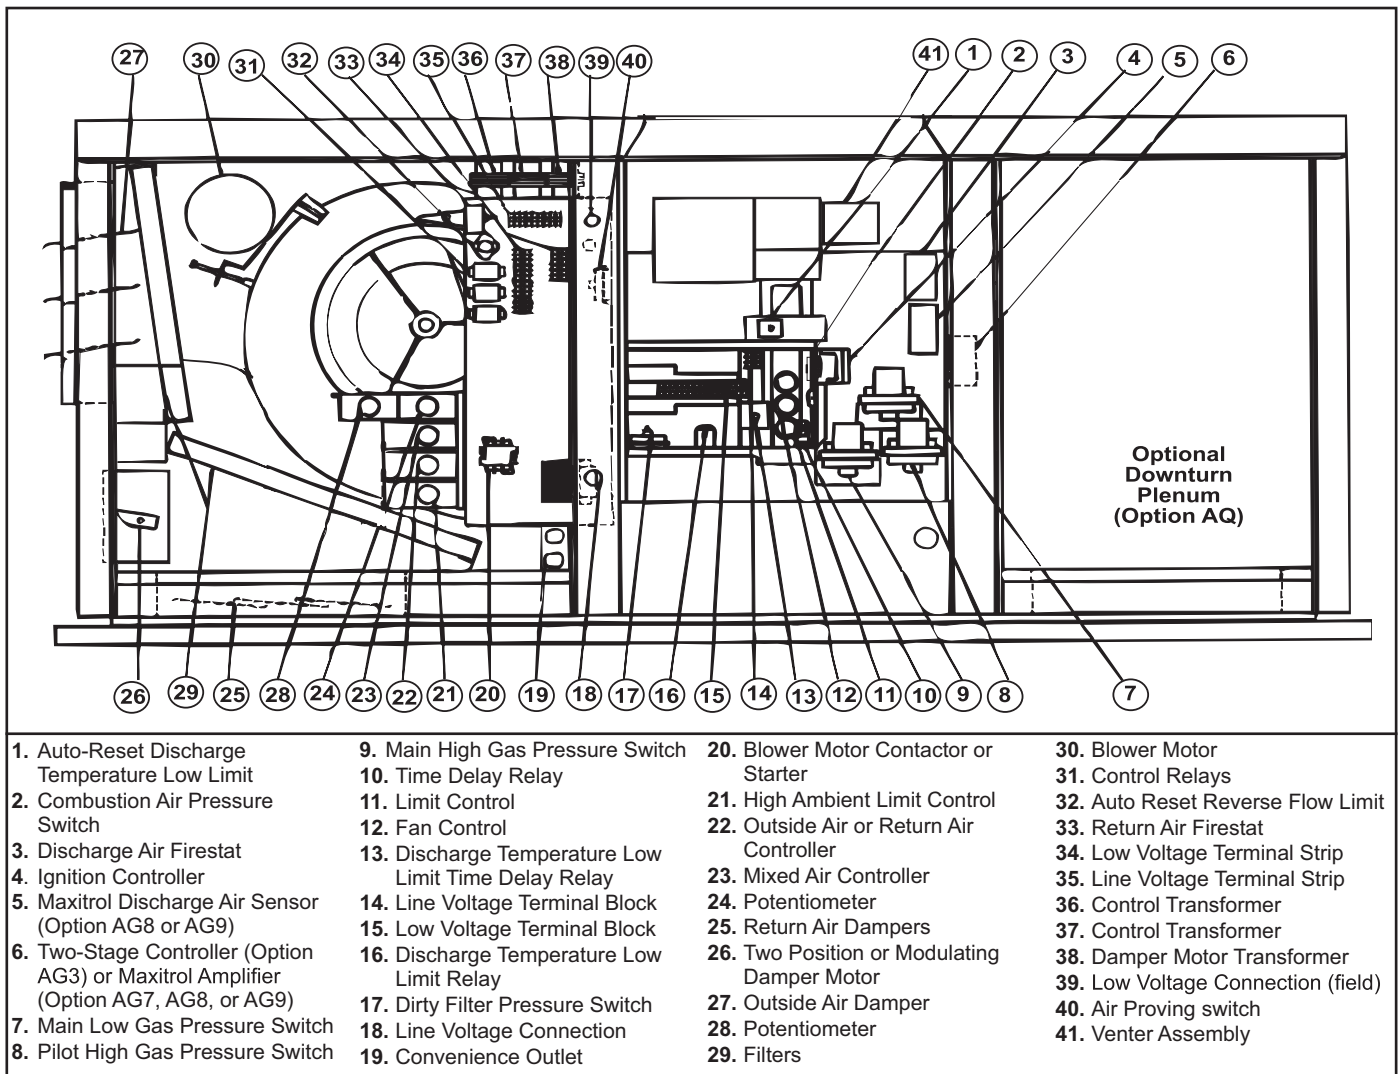

Figure 10. Control Locations
- There are a variety of optional controls (see Figure 10) available as part of the gas and air control options. Optional shipped-separate heating and makeup air controls could include a single or two-stage **thermostat**, system switches, Selectrastat, discharge temperature low limit, an automatic night setback device, a Maxitrol temperature selector, a potentiometer, a pressure null switch, or a combination of these controls. Install controls according to the manufacturer's instructions packaged with the heater. Refer to Table 12 for amp ratings of optional controls. Refer to Table 13 for the recommended maximum length and minimum gauge of control wiring.
Control locations are shown in Figure 10. For information on system controller options D19, D21, D22, and D23, refer to the control system guide listed in Table 1.